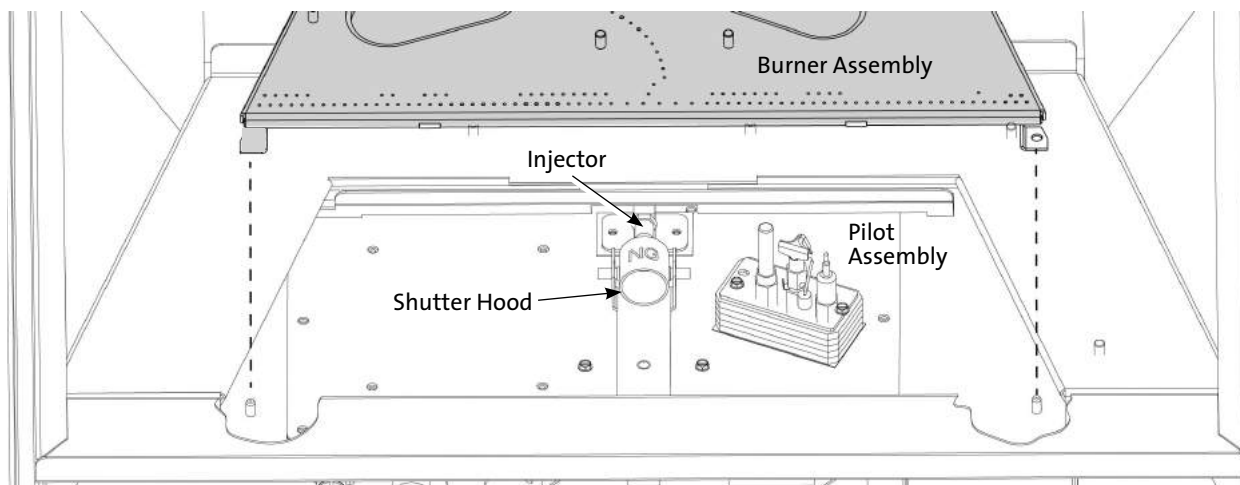

Figure 7.4. Burner and injector removal.
3. REMOVE THE BURNER - Fig. 7.4
4. CHANGE THE BURNER INJECTOR: Use a 1/2" or 13 mm open-end wrench or deep-well socket to remove the original burner injector from the brass fitting at the rear of the firebox. See fig. 7.4. Install the injector from the conversion kit and tighten it securely.